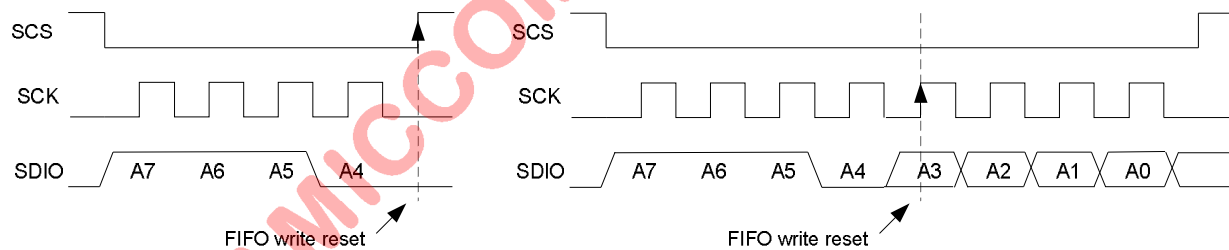

Figure 10.9 FIFO write pointer reset Command Timing Chart
- Step4: Send TX Strobe command for packet transmitting. Refer to Figure 10.9.